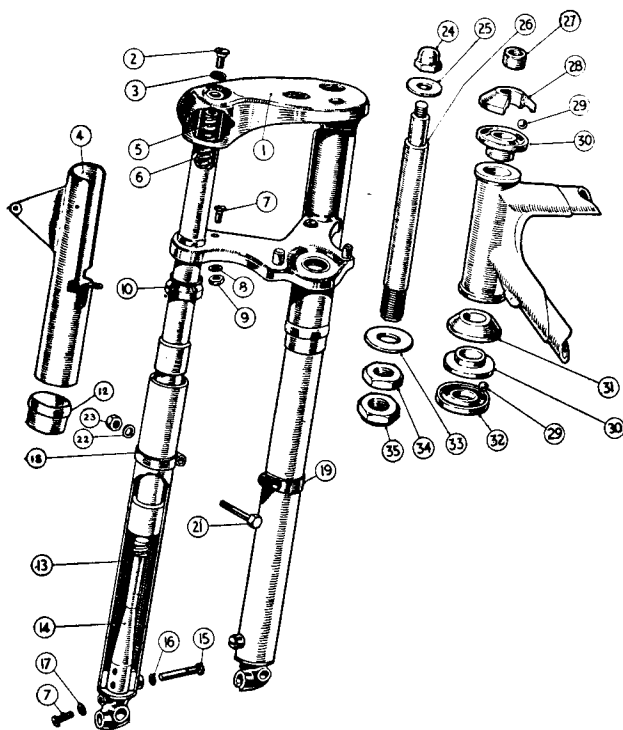

FIG. 51
Detach steering head stem and support the forks (see fig. 51). Watch for head bearings (29), set of 39 and take away forks. Support the forks in a vice (fig. 63), take out screw (2), and pull off the bottom slider extension (13) with fork spring attached.